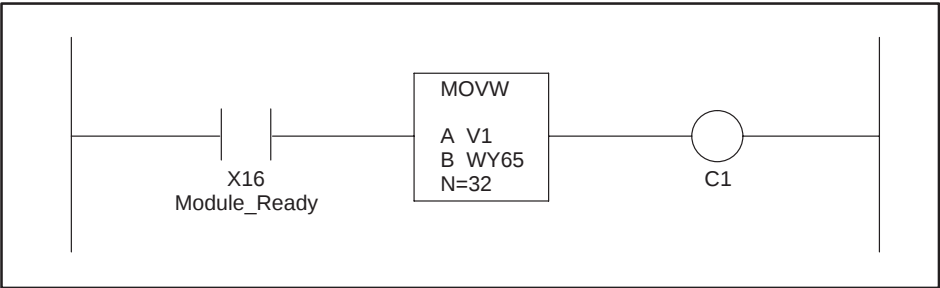

Figure 3-8 The Module_RReady Bit
- 2. By monitoring the state of the Module_RReady flag, data is moved to the WY output registers. See Figure 3-8.